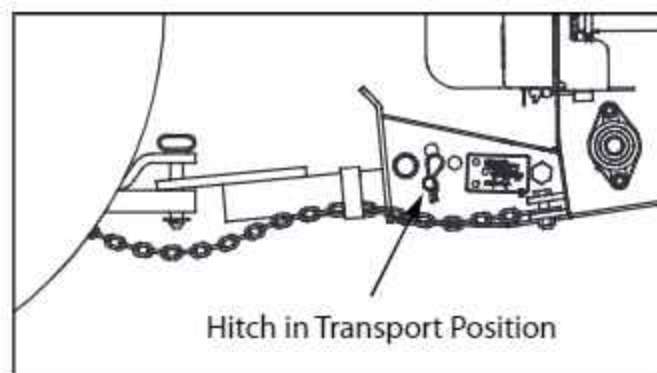

FIG. 4-9. Hitch In Transport Position
3. The hitch must be rotated into the transport position and secured, as shown in Fig. 4-9. Brandt Industries Ltd. recommends the use of a safety chain for added safety when transporting the conveyor. Refer to Section 2.5.